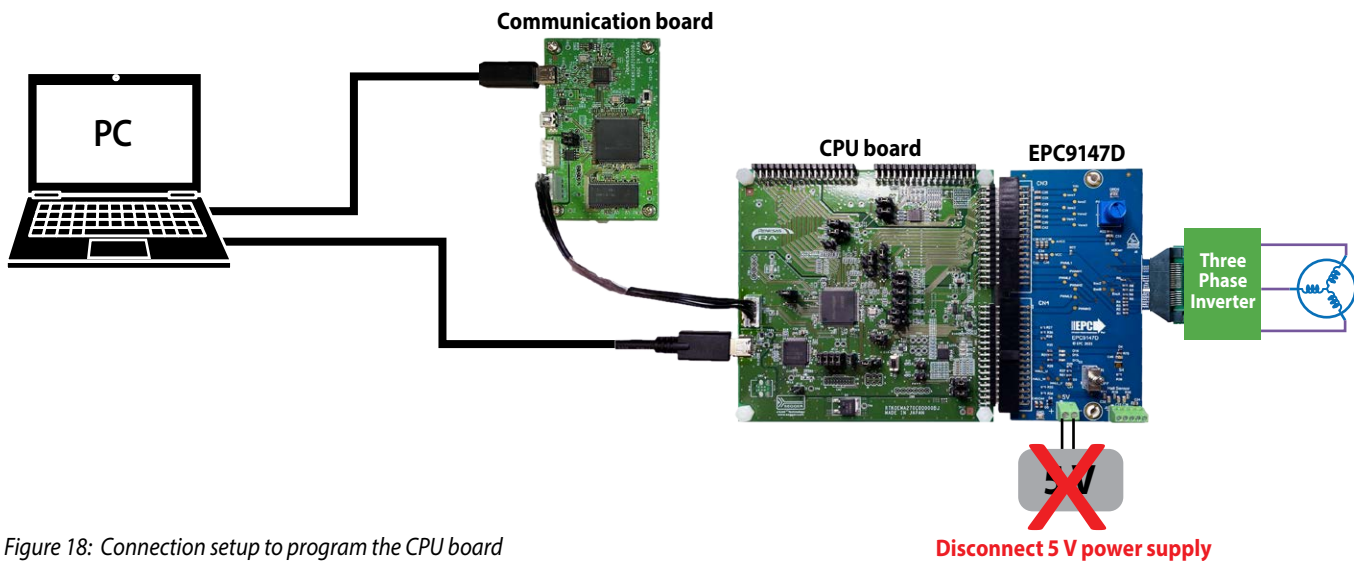

Figure 18: Connection setup to program the CPU board
- 2) Connect the CPU board to the PC as shown in figure 18 and program the application firmware in the Renesas controller by clicking on download button in the **Download Application Program** section